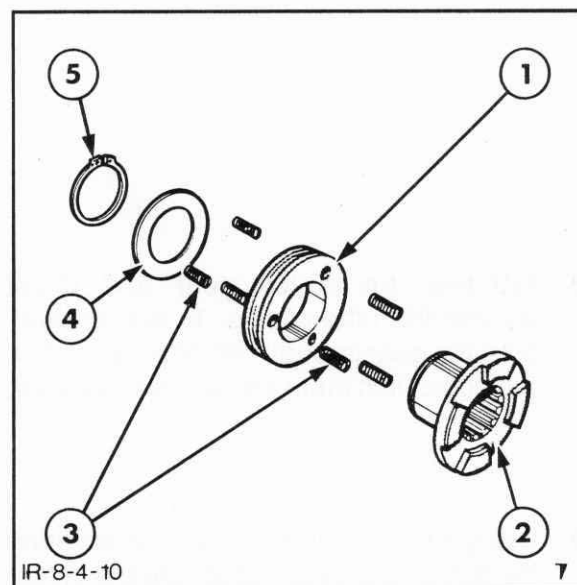

Figure 7-148
16. Remove the snap ring from the sliding coupling assembly and separate the components, Figure 7-148.